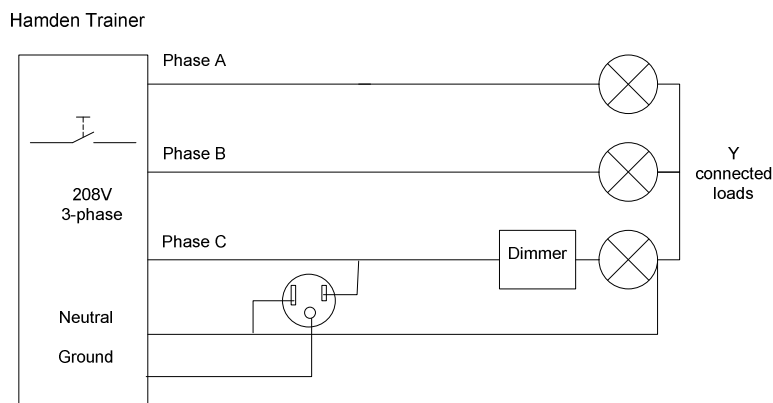

Figure 2. Circuit set up for branch circuit trouble shooting
1. Set up the circuit in Figure 2. Use three different watt lamps.